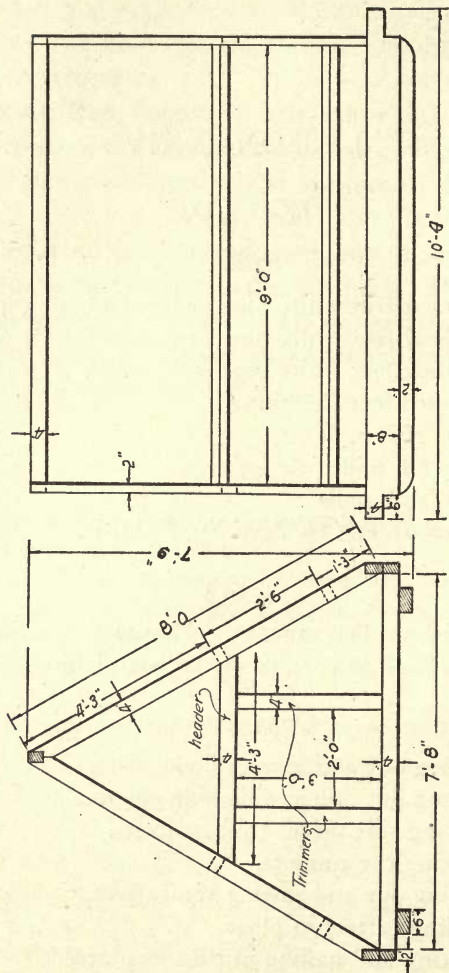

FIG. 104.—WORKING DRAWINGS OF HOG COT.
2. **Laying out and sawing the side pieces.** — Lay out two pieces  $2'' \times 8'' \times 10' 4''$  for the side pieces. Notch each end  $4''$  down from the top and  $6''$  in from each end, as shown in Fig. 104.